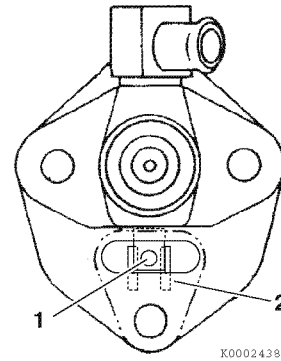
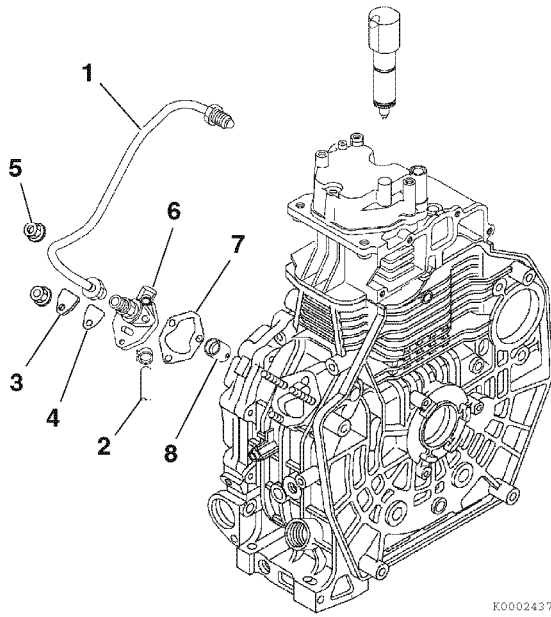

Figure 7-18
Figure 7-19
- Install the original fuel injection pump shim(s) (7, **Figure 7-19**).
- Install the fuel injection pump (6, **Figure 7-19**) into the crankcase, ensuring that the fuel injection pump lever pin (1, **Figure 7-18**) is engaged in the governor lever fork (2, **Figure 7-18**).
- Install the two side mounting nuts (5, **Figure 7-19**) and tighten to specification. See *Special Torque Specifications* on page 7-4.
*Note: If the original fuel injection pump, camshaft and injection pump tappet (8, **Figure 7-19**) are being reused, you do not need to recheck the fuel injection timing. If any of these components have been replaced, it will be necessary to check the fuel injection timing. See *Checking and Adjusting Fuel Injection Timing* on page 7-10.*
- Install the inspection cover (3, **Figure 7-19**), gasket (4, **Figure 7-19**) and nut. Tighten to specification. See *Special Torque Specifications* on page 7-4.
7. Install the fuel injection high-pressure fuel injection line (1, **Figure 7-19**). Tighten the nuts to specification. See *Special Torque Specifications* on page 7-4.
8. Install the fuel supply line (2, **Figure 7-19**).